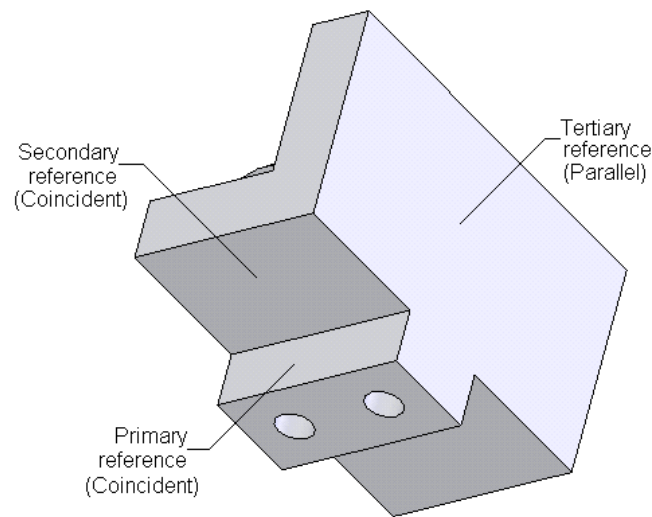

Figure 10-55 Faces to be selected as mate references
12. Similarly, create the mate reference in the Vice Jaw part document. The faces to be selected as reference are displayed in Figure 10-55. The name of the mate reference in the **Reference Name** rollout should be the same in both part documents.